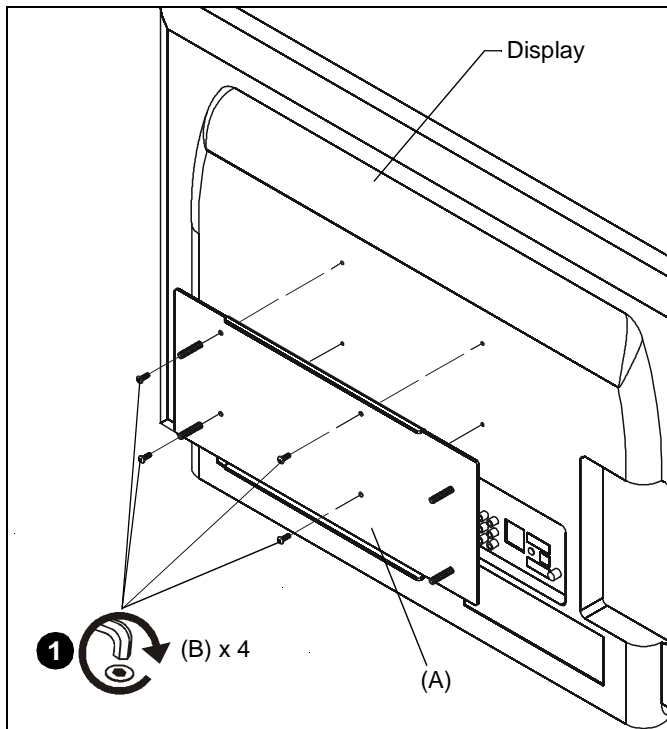

Figure 1
1. Attach interface bracket (A) to display using four M4 x 12mm button head cap screws (B) and a M2.5 hex key (F). (See Figure 1)